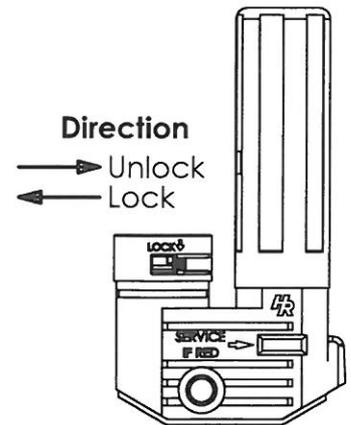

Figure 3
1. Using a thumb or finger nail lightly remove the lock from the front body hole. Fig. 3